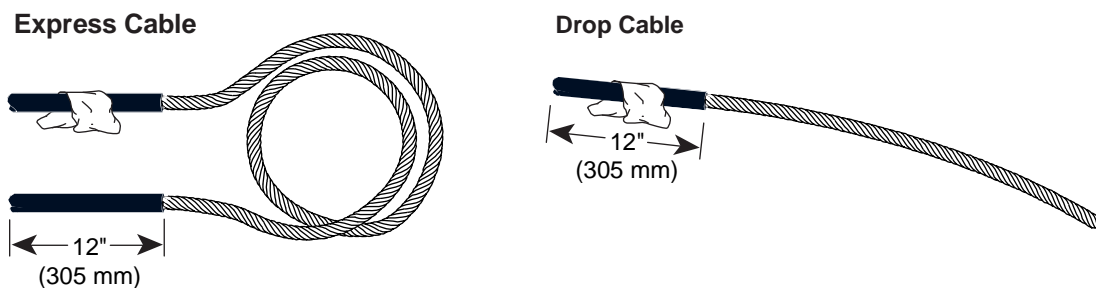

Figure 2
2. Using the cleaning tissue provided, clean and de-grease all prepared cable sheaths (Figure 2).